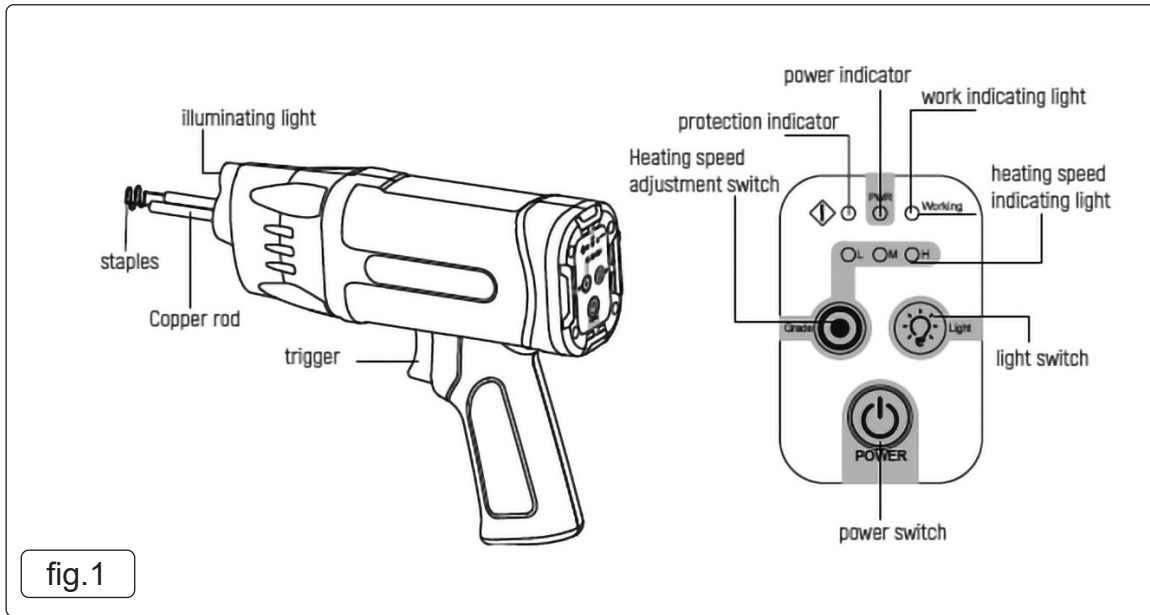

fig.1
- 4.4. According to the shape of the position to be repaired, select the corresponding staple and heating speed (fig.1). Insert the copper rod in the appropriate direction.
- 4.5. Hold the welder handle tightly, align the staple with the cracks to be repaired, press the trigger, the staple will be heat up (indicating light fig.1 will light when at set heating speed). Melt the staple into the plastic for a few seconds, twist the handle slightly horizontally, so that the transverse part of the staple is completely covered.